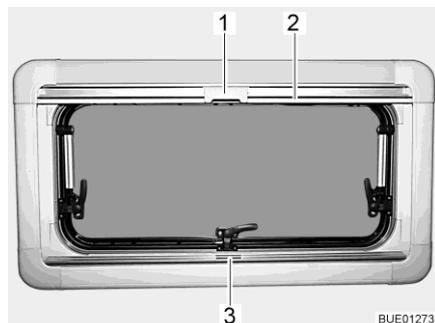

Fig. 106 Hinged window
Closing: ■ Grip the Roman shade in the centre of the holding bar (Fig. 106,3), pull it from the bottom to the top and then release it at the desired height. The Roman shade will stay at this height.
Closing: ■ Pull the insect screen down using the holding bar (Fig. 106,2), until it touches the holding bar of the Roman shade (Fig. 106,3).
■ Clip the catch (Fig. 106,1) on the insect screen into the handle of the Roman shade.
Opening: ■ Push the catch (Fig. 106,1) on the insect screen inwards.
■ Move the insect screen back slowly on the holding bar (Fig. 106,2).